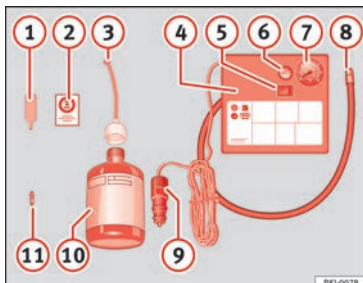

Fig. 107 Standard representation: contents of the anti-puncture kit.
The anti-puncture kit is located underneath the floor covering in the luggage compartment. It includes the following components » Fig. 107:
Screw in the inflator tube » Fig. 107 ⑧ again and check the pressure on the gauge ⑦.